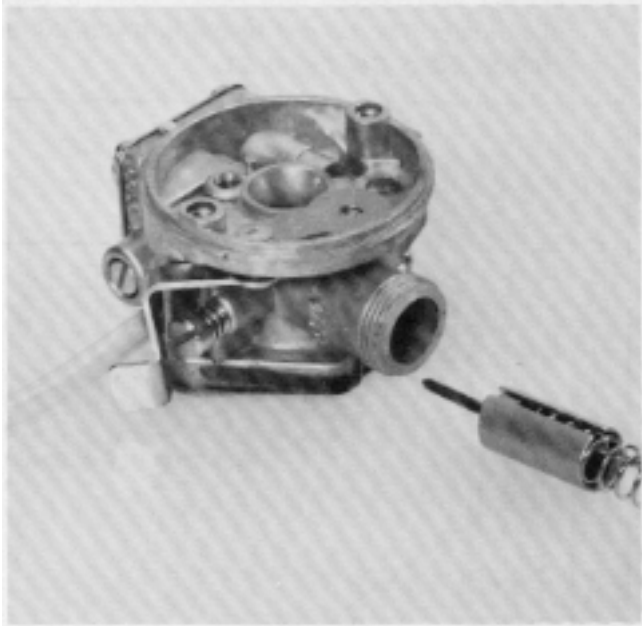

Figure 23
5. Remove the throttle adjusting screw, throttle adjusting screw spring and the high speed mixture screw. See Figure 23.